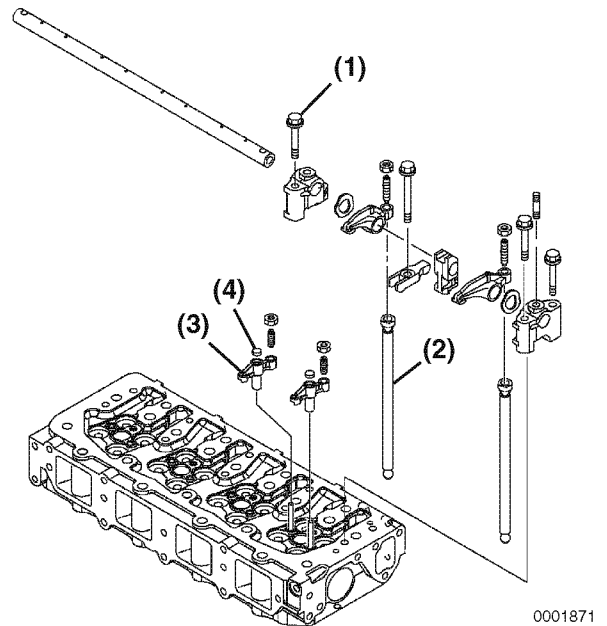

Figure 6-72
- Reinstall the valve bridges (Figure 6-72, (3)) in their original locations and ensure each seat (Figure 6-72, (4)) is in place.
- Insert the push rods (Figure 6-72, (2)) in their original locations.